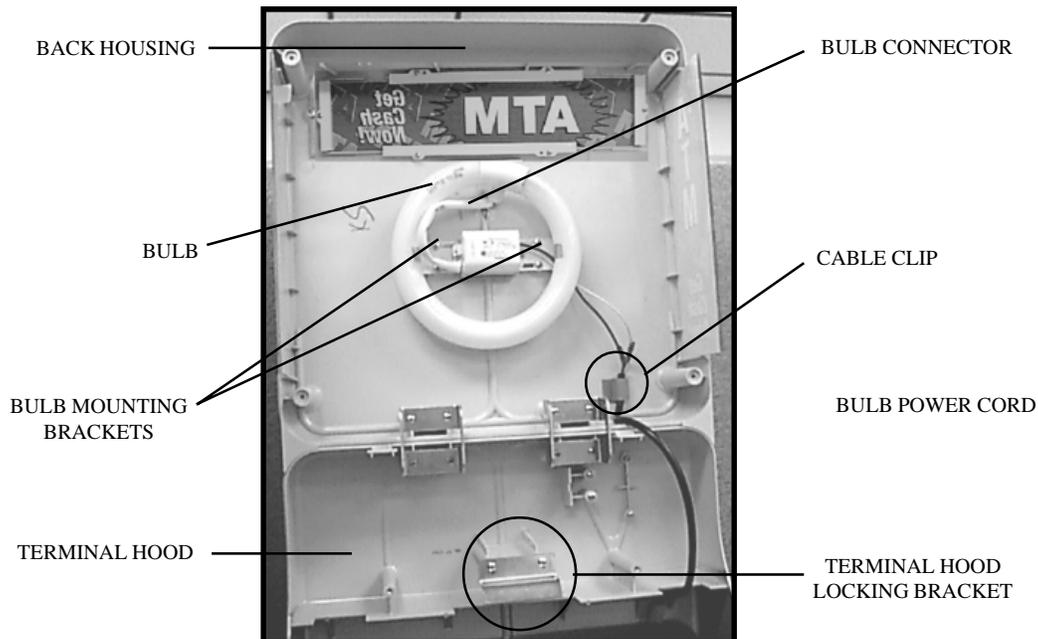

FIGURE 4-4
7. On the Back Housing Assembly, insert the Rear Graphics Sign so it is readable from the outside. Place two of the Long Sign Brackets and two of the Short Sign Brackets on the inside of the Back Housing, as shown in Figure 4-4. The “toe” of each bracket should face down toward the Rear Graphics Sign. Insert the included #4-40 screws through the holes in the brackets and into the inserts in the Back Housing. Tighten down until the brackets are secure.
8. Remove the four screws that connect the two sign Mounting Brackets to the Back Sign Housing and remove the brackets. (See Figure 4-4.) Place and align the Back Sign Housing Assembly on top of the ATM. Place the two sign mounting brackets back onto the Back Sign Housing. Align the holes in the brackets with the mounting bosses on the Back Sign Housing and the ATM. Attach the Back Sign Housing Assembly to the top of the hood with four #8-32 x 3/8” screws. (See Figure 4-4.)
10. Remove the fluorescent bulb from the shipping box and plug the bulb into the connector located on the ballast on the Back Sign Housing Assembly. (See Figure 4-4.) **NOTE: the connector is keyed and will only plug into the bulb when properly aligned.**
11. Place the bulb into the two bulb mounting brackets located in the center of the Back Sign Housing Assembly. (See Figure 4-4.)